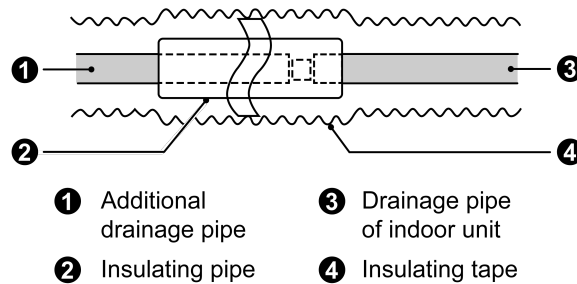

Fig.4.3.1
- (6) Install drainage pipe according to the following Fig. and arrange insulation to the drainage pipe (Fig.4.3.1). Improper installation may lead to water leakage and damp the furniture and other things in the room.
- (7) You can buy normal hard PVC pipe used as the drainage pipe. During connection, insert the end of PVC pipe into the drainage hole and then tighten it with drainage hole and wire binder. Can't connect the drainage hole and drainage hole with glue.
- (8) When the drainage pipelines are used for several units, the position of pipeline should be about 100mm (4inch) lower than the drainage port of each unit. In this case, thicker pipes should be applied.